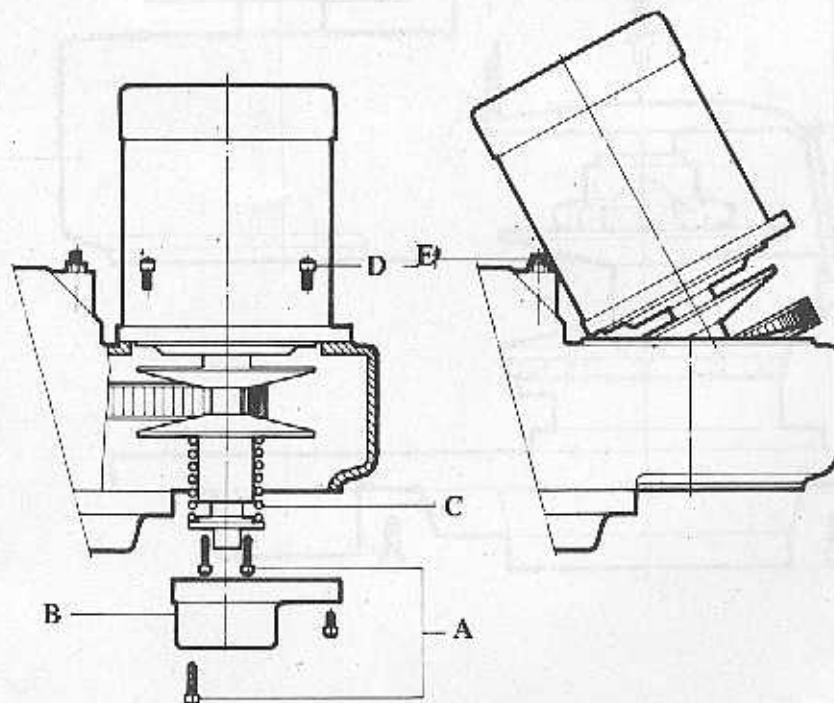

Fig. 2
REMOVING THE MOTOR (See Fig. 2):
2. Remove the cover (#54, page 15) (B. Figure 2) at the lower end of the motor shaft. Use two cover screws (#55, page 15) (A) to fasten the spring (#44, page 15) (C) on the lower end of the motor shaft, to the lower motor vari-drive pulley (#43, page 15). This will reduce the hazard of personal injury that is always present when a heavy spring is under compression. When the pulley, spring retainer (#45, page 15) and spring are securely fastened as a single unit crank the speed change handwheel (#21, Figure 8.) to top speed position.
3. Now remove the screws (#9, page 15) (D) that fasten the motor to the belt housing. The motor should be lifted slightly and pulled firmly away from the spindle and toward the rear of the belt housing. This will pull the vari-drive belt (#27, page 15) deeply into the spindle pulley (#25, page 15) providing the slack needed to slip the belt over the motor pulley (#43, page 15).
4. Now lift the motor high enough to rest the motor base GENTLY on the adjusting screw (#16, page 15) (E) seen directly in front of the motor flange. The belt can now be slipped over the lower pulley and the motor removed from the housing.